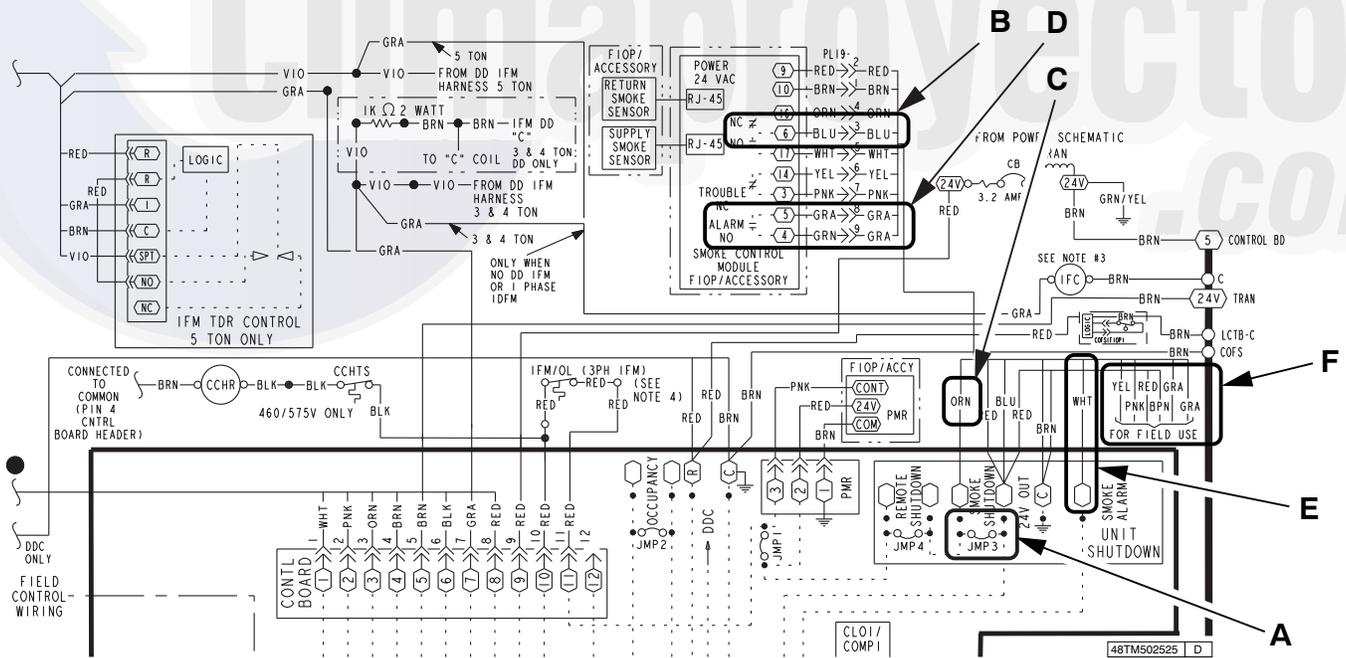

Fig. 40 - Typical Smoke Detector System Wiring
**All units:** The FIOP smoke detector is configured to automatically shut down all unit operations when a smoke condition is detected. See Fig. 40, Smoke Detector Wiring.